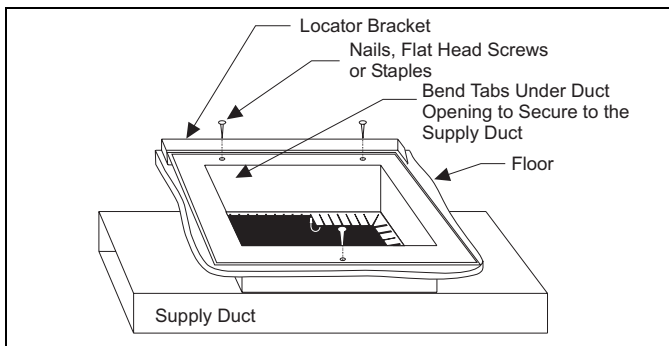

FIGURE 11: Duct Connector Tab Attachment
3. Place locating bracket (supplied with the duct connector) to the rear of the floor area for the furnace. See Figure 11.